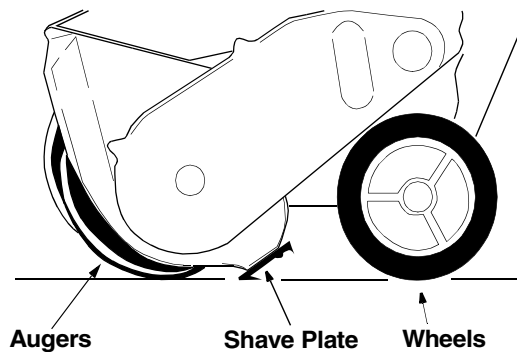

Figure 12
- To check the adjustment of the shave plate, place the unit on a level surface. See Figure 12. The wheels, shave plate and augers should all contact the level surface. Note that if the shave plate is adjusted too high, snow may blow under the housing. If the shave plate wears excessively, or the unit will not self-propel, the shave plate may be adjusted too low.